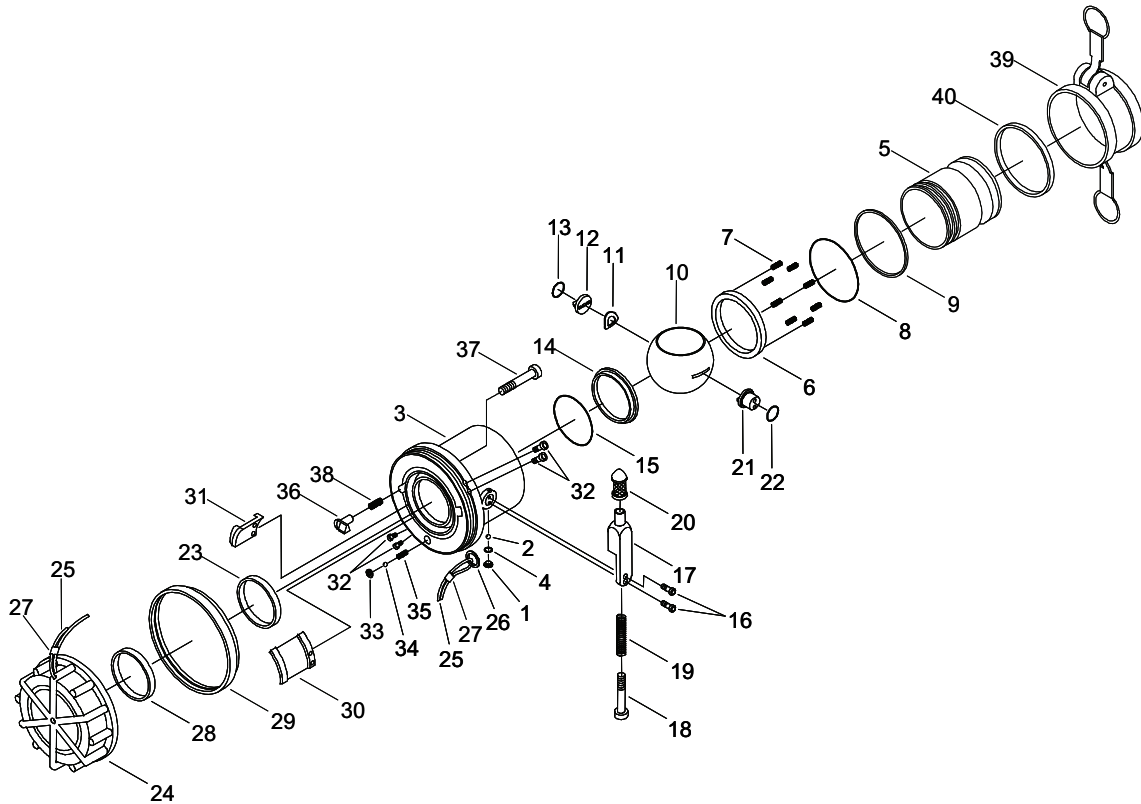

Figure 1. 2 In. Male Quick Disconnect x 2 In. Valved Dry-Break Adapter Assembly.
10. Close the control arm (Figure 1, Item 17) and disconnect the repaired (dry-break valve) coupling assembly from the similar (dry-break valve) coupling assembly by rotating the couplings in a counterclockwise direction.
12. With the control arm (Figure 1, Item 17) in the closed position, apply pressure of 5 PSI (34.5 kPa) to the repaired (dry-break valve) coupling assembly.
15. Reduce pressure from the test system, remove repaired (dry-break valve) coupling assembly from the test system and install dust cap (Figure 1, Item 24).
16. Install new gasket (Figure 1, Item 40) into dust cap (Figure 1, Item 39).
17. Install dust plug (Figure 1, Item 39) on inlet adapter (Figure 1, Item 5).
- Screw (Figure 1, Item 1) is a self-locking screw and is designed to be reused up to 15 times before replacement. If a torque wrench is not used to remove screw (Figure 1, Item 1), then screw (Figure 1, Item 1) should be replaced.
1. Using a torque wrench and screwdriver bit, check running torque on screw (Figure 1, Item 1). If running torque is less than 3.5 in. lb (0.45 N-m), discard screw (Figure 1, Item 1).
Keep inlet hole in the up position when removing screw (Figure 1, Item 1) to prevent loss of ball bearings (Figure 1, Item 2) inside coupling (Figure 1, Item 3).
2. Remove screw (Figure 1, Item 1) from coupling (Figure 1, Item 3).
3. Remove o-ring (Figure 1, Item 4) from screw (Figure 1, Item 1).
4. Discard o-ring (Figure 1, Item 4).
Ensure all 41 ball bearings (Figure 1, Item 2) are accounted for during disassembly.
5. Hold coupling with screw hole toward cleaning cloth and rotate inlet fitting to allow ball bearings (Figure 1, Item 2) to fall onto the cleaning cloth.
6. Remove quick disconnect coupling half adapter (Figure 1, Item 5) from coupling (Figure 1, Item 3).
7. Remove seal (Figure 1, Item 6) from quick disconnect coupling half adapter (Figure 1, Item 5). Discard seal (Figure 1, Item 6).
8. Remove eight springs (Figure 1, Item 7) from quick disconnect coupling half adapter (Figure 1, Item 5).
9. Remove o-ring (Figure 1, Item 8) from inside groove of quick disconnect coupling half adapter (Figure 1, Item 5). Discard o-ring (Figure 1, Item 8).
10. Remove o-ring (Figure 1, Item 9) from outer groove of quick disconnect coupling half adapter (Figure 1, Item 5). Discard o-ring (Figure 1, Item 9).
11. Rotate ball valve (Figure 1, Item 10) to the closed position and remove from inside coupling (Figure 1, Item 3).
12. Remove spring washer (Figure 1, Item 11), stop pin (Figure 1, Item 12) and o-ring (Figure 1, Item 13) from inside coupling (Figure 1, Item 3).
13. Discard o-ring (Figure 1, Item 13).
14. Remove seal (Figure 1, Item 14) from coupling (Figure 1, Item 3).
15. Discard seal (Figure 1, Item 14).
16. Remove o-ring (Figure 1, Item 15) from coupling (Figure 1, Item 3).
17. Discard o-ring (Figure 1, Item 15).
18. Remove screws (Figure 1, Item 16) from control arm (Figure 1, Item 17).
19. Remove control arm (Figure 1, Item 17) from coupling (Figure 1, Item 3).
If it is necessary to disassemble control arm (Figure 1, Item 17), perform the following steps:
- a. Remove screw (Figure 1, Item 18) from control arm (Figure 1, Item 17).
- b. Remove spring (Figure 1, Item 19) from control arm (Figure 1, Item 17).